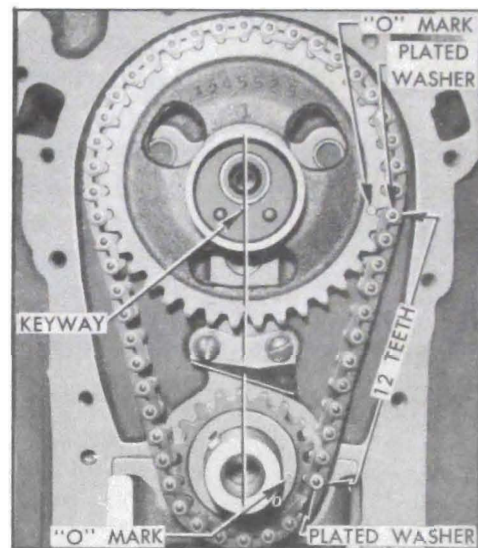

Figure 2-26—Timing Chain and Sprockets Properly Installed
4. If there has been doubt about the valve timing, turn crankshaft until the camshaft sprocket keyway is straight down toward the crankshaft and the "0" timing marks on both sprockets are toward left side of engine. If timing chain is installed to provide correct valve timing, there will be 12 teeth between the "0" timing marks, including teeth aligned with the marks. See figure 2-26.
7. When ready to install timing chain, turn crankshaft until Nos. 1 and 4 pistons are on top dead center. Turn camshaft so that the sprocket key points straight down toward crankshaft. See figure 2-26.
8. Place timing chain over the camshaft and crankshaft sprockets so that the copper plated washers on chain are aligned with the "0" marks stamped on front faces of sprockets, then install sprockets with chain on the two shafts. See figure 2-26.